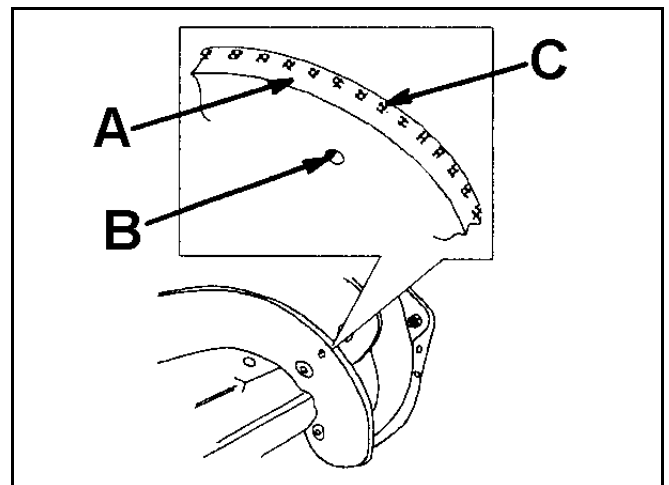

Figure 86
1. Examine a new rotor blade edge for the difference in the thickness of the rubber layers (Figure 86).
Install the rotor blades with the thick rubber layer on the *inside* of the curve. (Figure 86). If you do not install the rotor blades properly, they will wear more quickly and may vibrate excessively.